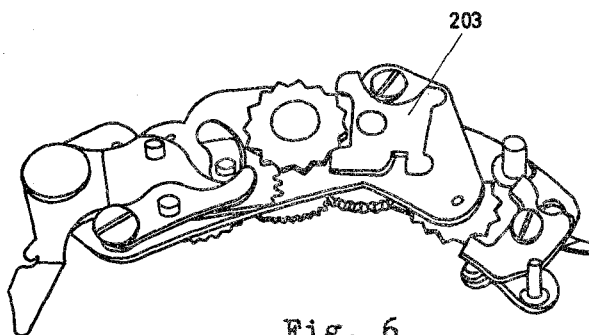
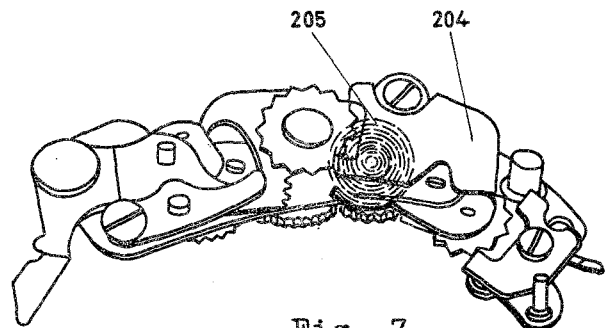

Fig. 6
Fig. 7
c. In order to permit of easier adjustment of the various shutter speeds, the escapement 0475-G20 shown in Fig. 6 has been replaced by the escapement 0475-G20.1 shown in Fig. 7. The latter differs from the former in that the escapement lever mounted on the upper plate is of different design and that a spiral return spring 205 has been provided between the upper plate of the movement and the plate carrying the upper escapement lever.
In Figs. 6 and 7, the levers of the escapements 0475-G20 and 0475-G20.1 are respectively indicated by the reference numbers 203 and 204.